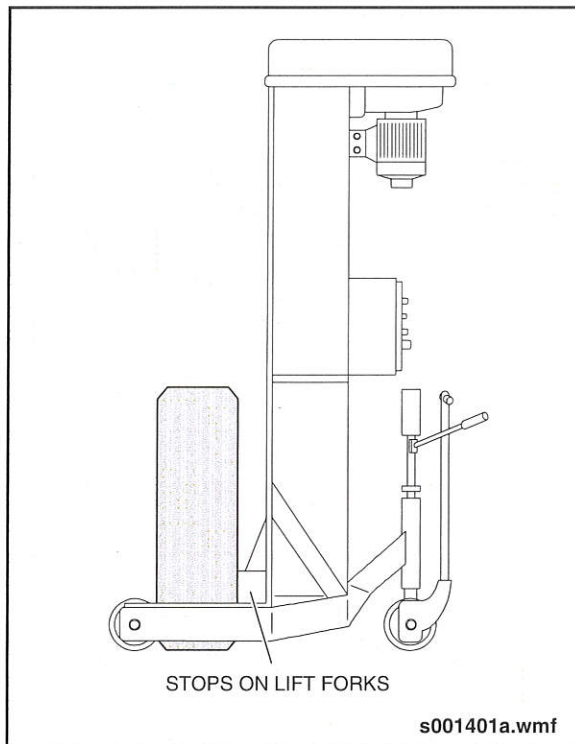

Fig. GI-12: Wheel Placement in Hoist
2. Raise hoist posts just enough so that hoist adapter pads positively contact the axle hoist points. **DO NOT LIFT VEHICLE.** See "Fig. GI-12: Wheel Placement in Hoist" on page 24.